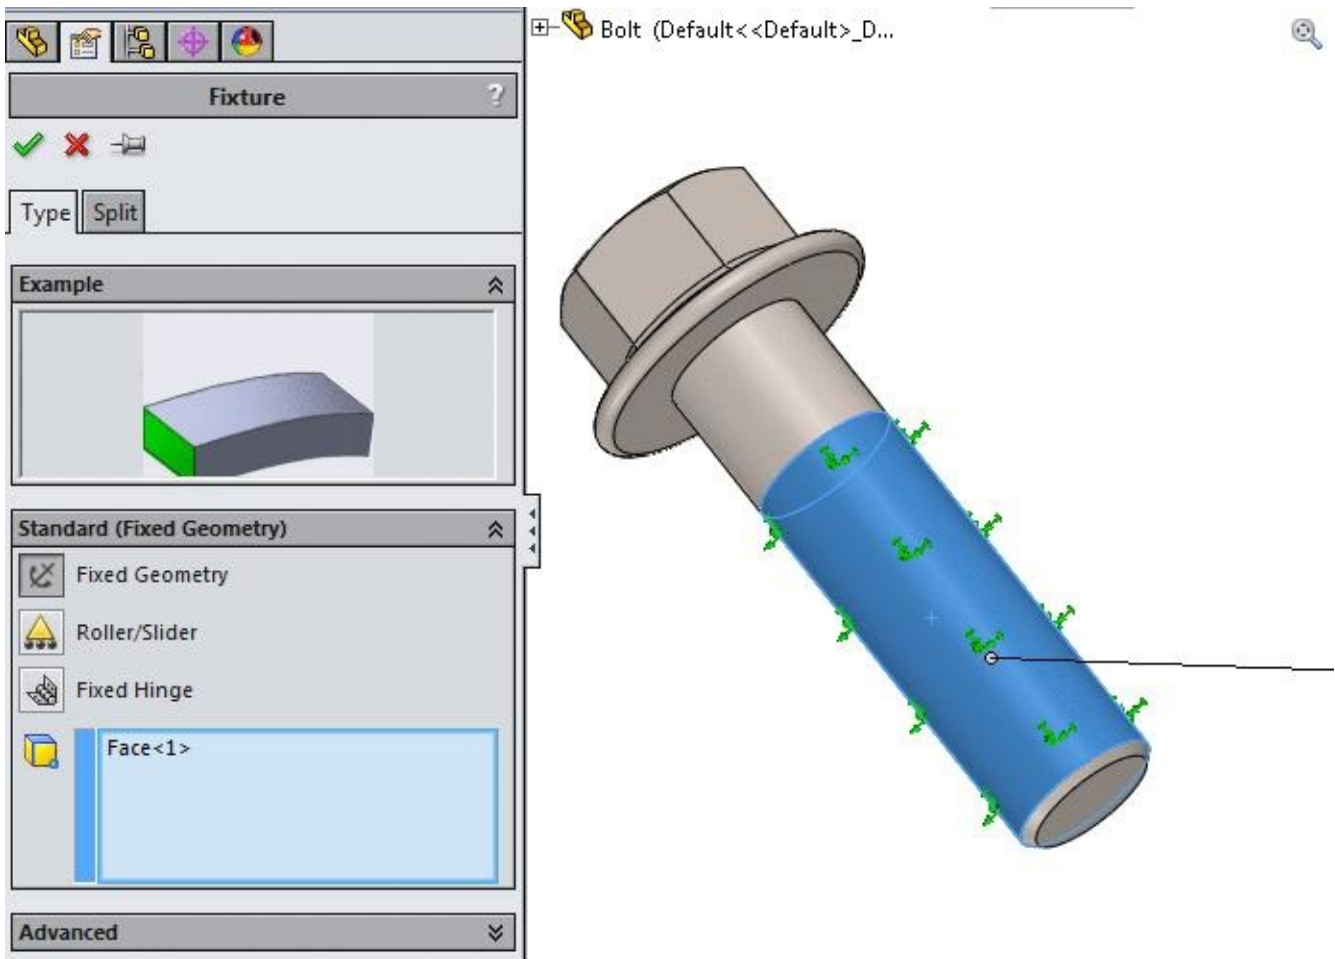

Figure-16. Fixed round face
- Select the round bottom face of the bolt as shown in Figure-16.